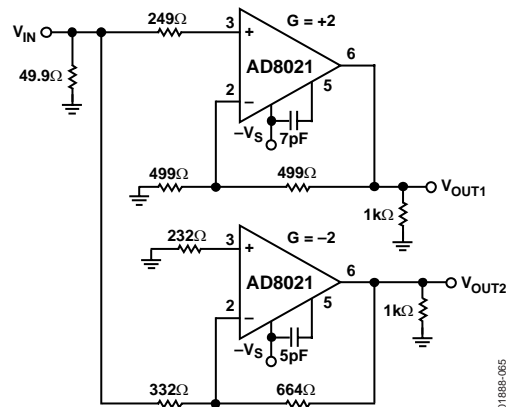
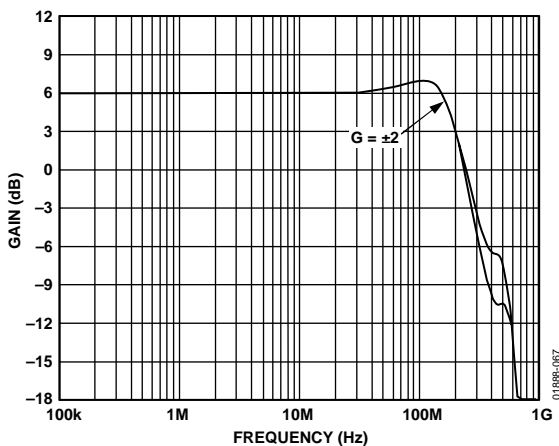

Figure 65. Differential Amplifier
Figure 67. AC Response of Two Dissimilarly Compensated AD8021 Op Amps (Figure 66) Configured for a Gain of +2 and a Gain of -2. Note the Close Gain Match.
- Match bandwidth in gain blocks with different noise gains, such as when designing differential amplifiers (as shown in Figure 65).
Figure 65 illustrates an inverter-follower driver circuit operating at a gain of 2, using individually compensated AD8021s. The values of feedback and load resistors were selected to provide a total load of less than 1 k $\Omega$ , and the equivalent resistances seen at each op amp's inputs were matched to minimize offset voltage and drift. Figure 67 is a plot of the resulting ac responses of driver halves.